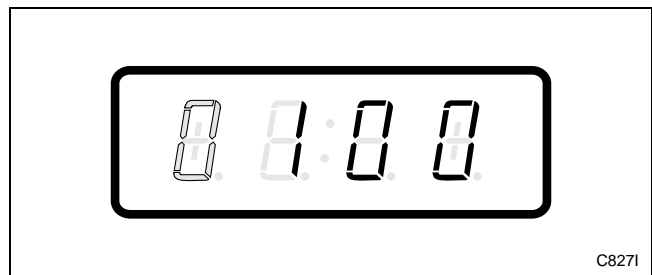

Figure 202
6. Press the START (enter) keypad to enter the fifth digit and display remaining four digits. The active digit will flash one second on and one second off. Refer to *Figure 202*.